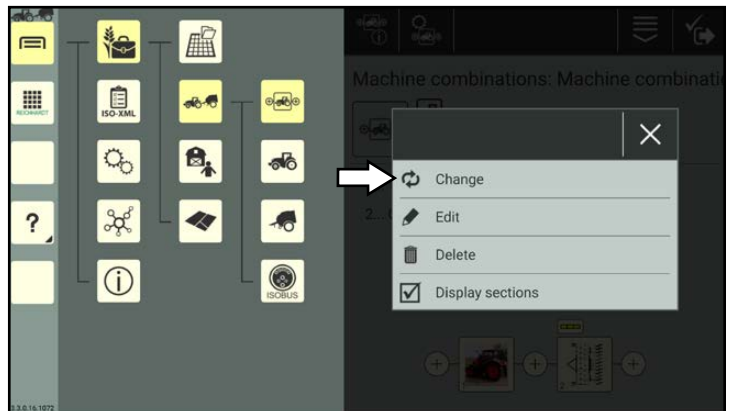

Fig. 313: Selecting "Change"
2. Select "Change" (see Fig. 313).